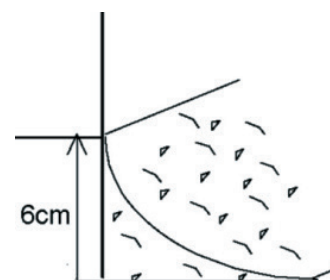

Fig. 4
6. Layer of Gravel on the Inside of the Pool (Fig. 4)